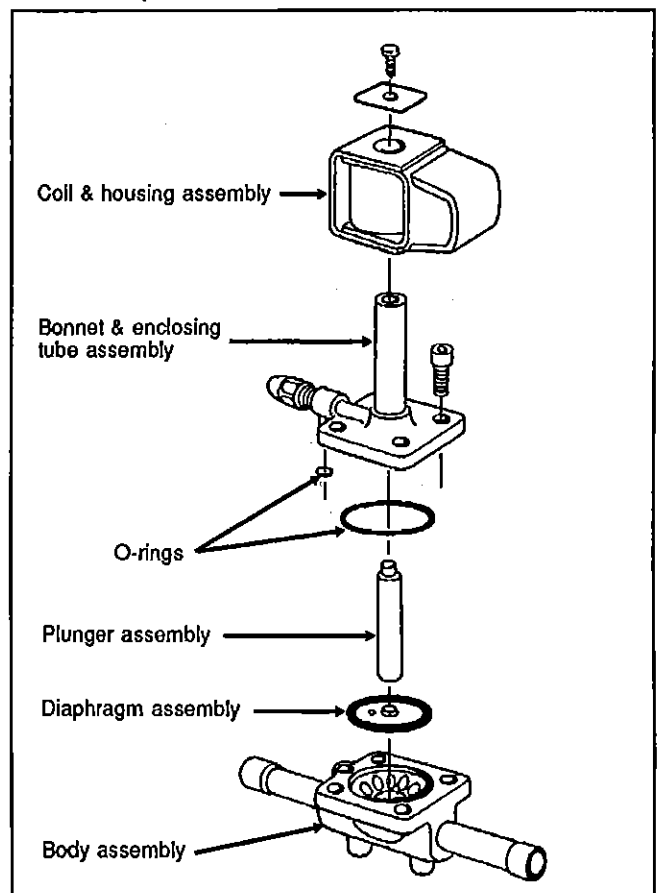

FIG. 17 - Refrigerant solenoid valve disassembly
3. Remove the four (4) socket head screws which hold the body and bonnet together (see fig.17).